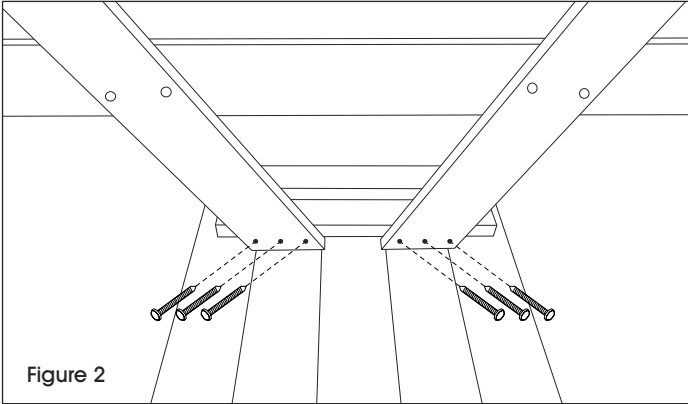

Figure 2
5. Place the preassembled table top upside down. Position the legs on the inside of the support bar. Make sure the legs are equal distance from either table edge and the cross-member is facing out. (See Figure 2)